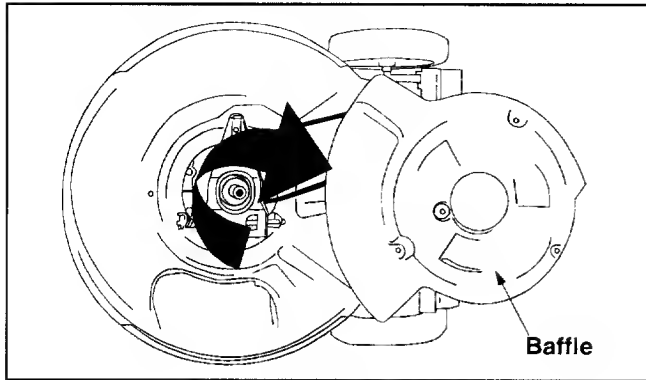

Figure 18
- Remove the three hex screws holding the baffle to the deck and pivot baffle towards the rear of the mower. See Figure 18.